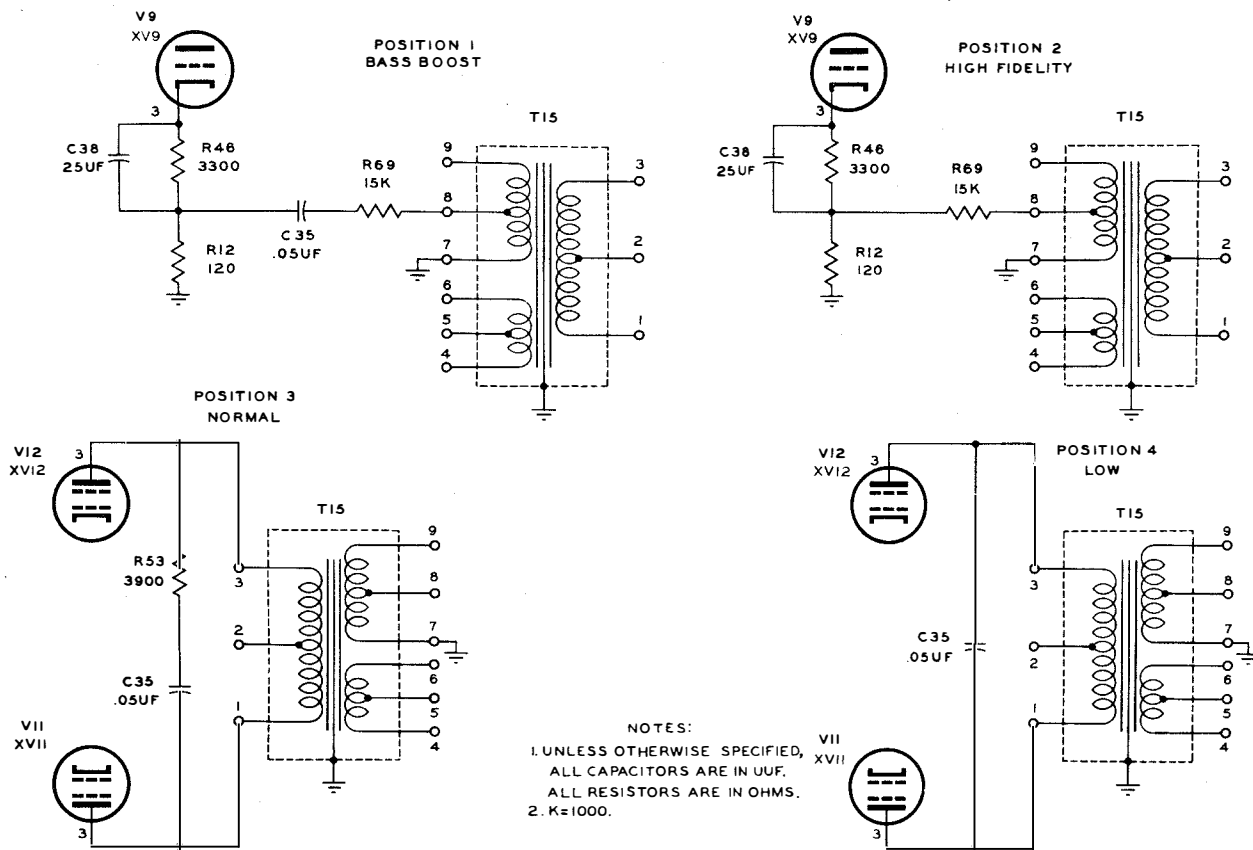

Figure 2-13. Radio Receiving Equipment Navy Model RBK-16, Four Simplified Tone Control Schematics.
c. The audioresponse curve of the receiver may be changed by the TONE control switch SW9. Switch SW9 has four positions which provide a switching arrangement for various parts to change the amount of feedback and bypassing of the audio stages in the different switch positions. Figure 2-13 indicates the circuit connections of all four switch positions.
(1) In position number one, which is BASS BOOST, negative feedback is fed through resistor R69 and capacitor C35 to voltage-divider resistors R12 and R46, which causes degeneration in the cathode circuit of the first audio amplifier at the higher frequencies.
(2) In position number two, HIGH FID., the capacity coupling is eliminated in the negative feedback circuit through resistors R69 and R12, causing the degeneration to have an effect over a wider range of frequencies; thereby, flattening the over-all response so that the output is fairly constant over the entire frequency range.
(3) In position number three, NORMAL, the degenerative feedback is disconnected and a series